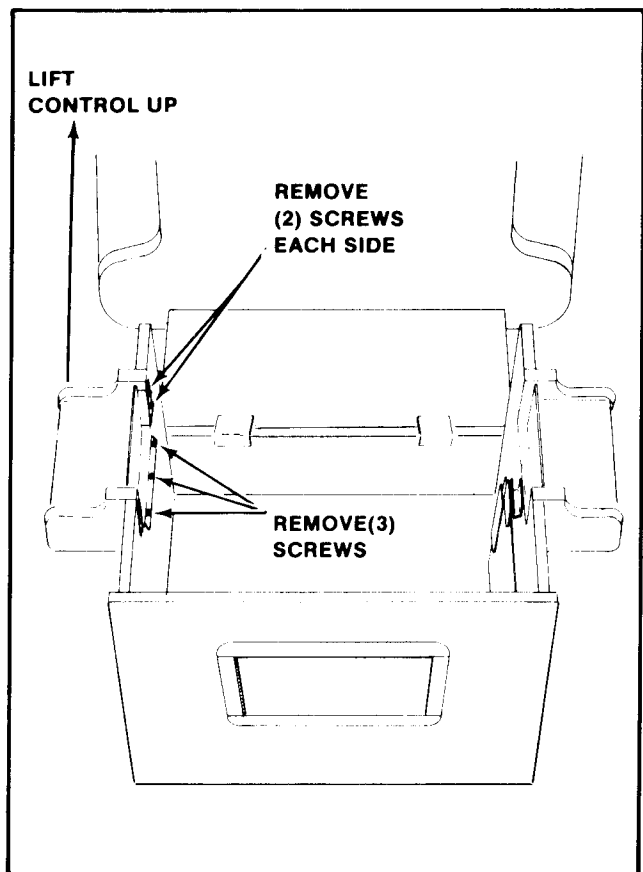

Figure 4-3 Removing the Control Panel — Cocktail
2. COCKTAIL TABLE MODEL: See Figure 4-3.
Remove the screws which secure the control panel in place. See Figure 4-3.